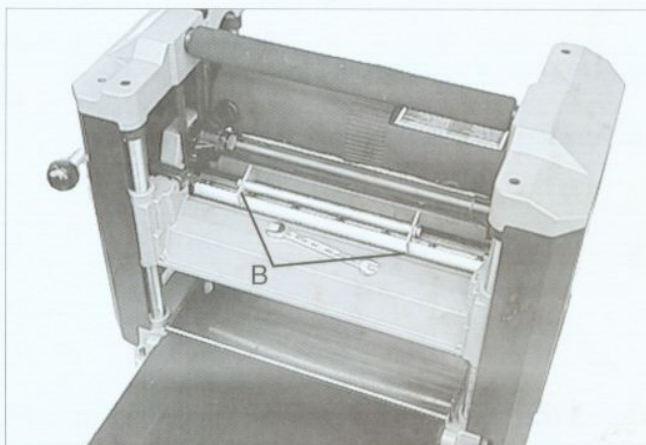
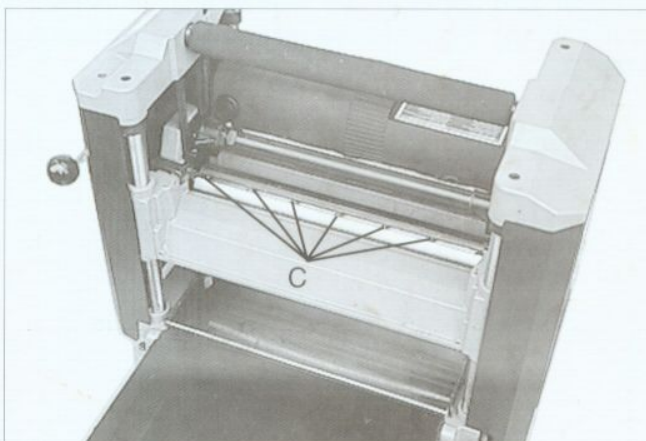
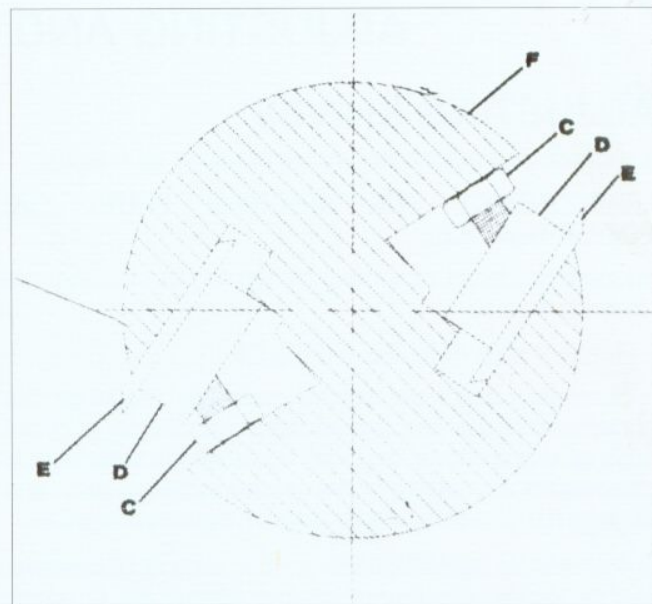

Fig.24
Fig.25
Fig. 26
4. Carefully place knife setting gage (B) Fig.24, on the cutterhead so the rounded sections are directly over the knife as shown. When adjusted correctly, the knife should just contact the bottom of the center portion at each end of gage (B). Check the other knife in the same manner.
5. If an adjustment to one or both knives is necessary, slightly loosen the seven locking screws, six of which are shown at (C) Fig.25, by turning the screws **CLOCKWISE** into the knife locking bar just enough to relieve stress in the cutterhead and not disturb the knife setting.
6. With the knife setting gage (B) Fig.24, still in place on the cutterhead, continue to adjust the knife that must be reset, by turning the seven knife locking screws (C) Fig.25, **CLOCKWISE** until the knife locking bar becomes loose. Lifter springs located under the knife will automatically raise the knife until it comes in contact with gage (B). Then snug up the knife locking bar by lightly turning the seven locking screws (C) **COUNTERCLOCKWISE**. **IMPORTANT: AT THIS TIME, ONLY TIGHTEN THE KNIFE LOCKING BAR JUST ENOUGH TO HOLD THE KNIFE IN POSITION INSIDE THE CUTTERHEAD SLOT.**
8. After both knives are positioned in the cutterhead with the knife locking screws snug, turn each of the seven screws, six of which are shown at (C) Fig.25, **COUNTERCLOCKWISE** until the knife is secure in the cutterhead. **NOTE:** When tightening knife locking screws, tighten the end screws first, then inward toward the center of the cutterhead.
4. Carefully place knife setting gage (B) Fig.24, on the cutterhead so the rounded sections directly over the knife as shown.
5. Loosen the knife locking bar by turning the seven knife locking screws, Six of which are shown at (C) Fig.25, **CLOCKWISE** and carefully remove knife locking bar (D) Fig.26, knife (E), and springs (not shown) which are located under the knife.
8. Carefully replace the springs (not shown), knives (E) Fig. 26 knife locking bars (D), into both slots of cutterhead (F). **IMPORTANT: WHEN REPLACING KNIFE LOCKING BARS (D) AGAINST KNIVES (E), AS SHOWN IN THE CROSS SECTIONAL ILLUSTRATION FIG. 26, MAKE CERTAIN THE BARS ARE INSTALLED AS SHOWN, WITH SCREWS (C), POSITIONED AT THE TOP OF KNIFE LOCKING BARS (D), AND ANGLED DOWNWARD HOLDING THE KNIVES (E) PROPERLY INSIDE THE CUTTERHEAD SLOTS. TURN KNIFE LOCKING SCREWS, ONE OF WHICH IS SHOWN AT (C), COUNTERCLOCKWISE JUST ENOUGH TO HOLD BOTH KNIVES (E) IN THE CUTTERHEAD (F).**